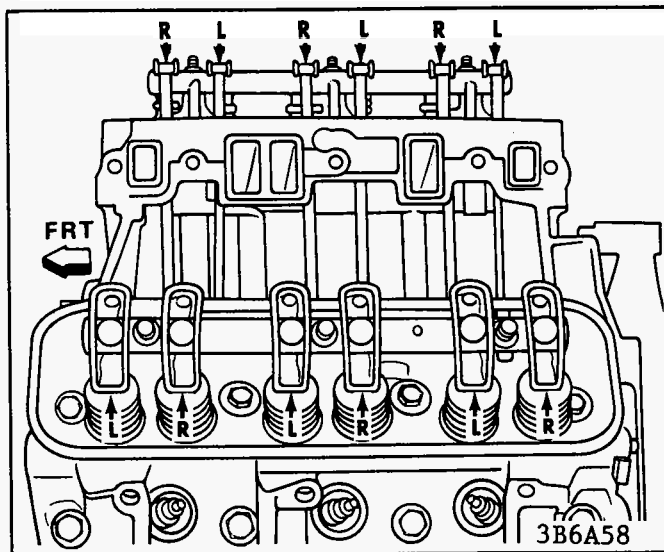

Figure 7-Position of Service Rocker Arms on Shaft
- o Should it become necessary to replace one or more rocker arms, it must be noted that all service rocker arms are stamped (R) right (L) left. Be sure rocker arms are installed on the rocker arm shaft in the correct sequence (Figure 7).